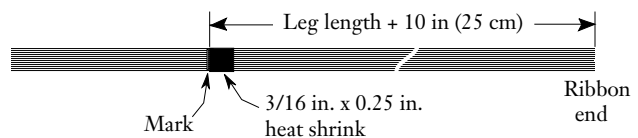

Figure 6
- a) Slide the heat shrink back to the mark made in step 5.2. Be sure to position the heat shrink on the ribbon-end side of the mark as shown in Figure 6.